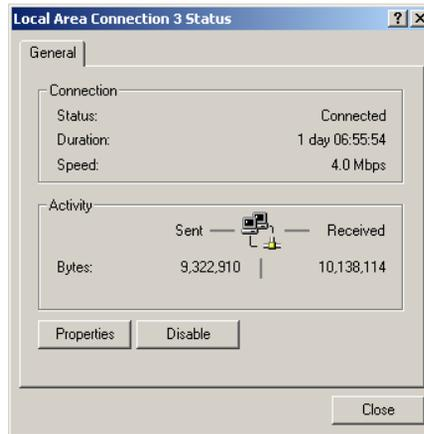

Figure 16 Local Area Connection 3 Status Dialog Box
3. To configure addresses for the token ring LAN connection, double-click the *Local Area Connection 3* icon. The *Local Area Connection 3 Status* dialog box displays (Figure 16).